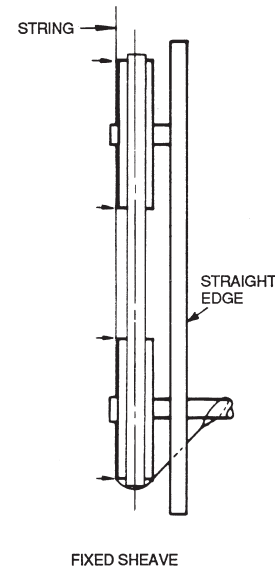

Fig. 28 — Sheave Alignment
1. To check the location of the fixed sheaves on the shafts, use a straightedge or a piece of string. If the sheaves are properly aligned, the string will touch them at the points indicated by the arrows in Fig. 28. Rotate each sheave a half revolution to determine whether the sheave is wobbly or the drive shaft is bent. Correct any misalignment.